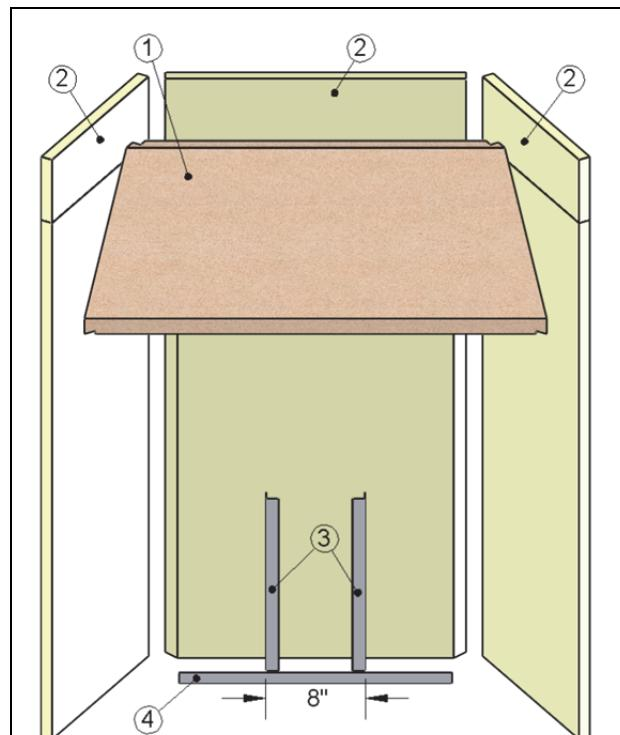

Figure 1 Insulation Panels and Fireplace Throat
Please refer to Figure 1 while following the installation procedure below:
1. First, find the throat refractory brick (1). The insulation panels (2) are already installed in your fireplace.
2. Take the throat refractory brick (1) and hold the wider part of the throat refractory brick with your two hands, flat face towards you. Place yourself down on your knees in front of the fireplace opening. Tilt and slide the throat refractory brick inside the firebox along the flue divider at the top of firebox. Slowly slide the throat refractory brick up so you can lay it on the $\frac{5}{8}$ " bend. Let the throat refractory brick tilt back. It will stay in place by itself.
3. Place the two shorter refractory support brackets (3) against the back insulation panel so that they are centered and 8" apart as shown in Figure 1. They provide a sturdy backing for both the lower back refractory bricks and the middle back refractory brick. Use the brackets as a straight edge and cut a slit in the back insulation panel and insert the refractory support brackets so they can rest firmly against the back wall of the firebox.
4. Place the longer refractory support bracket (4) on the bottom of the firebox in front of the other two support brackets in the orientation shown in Figure 1.